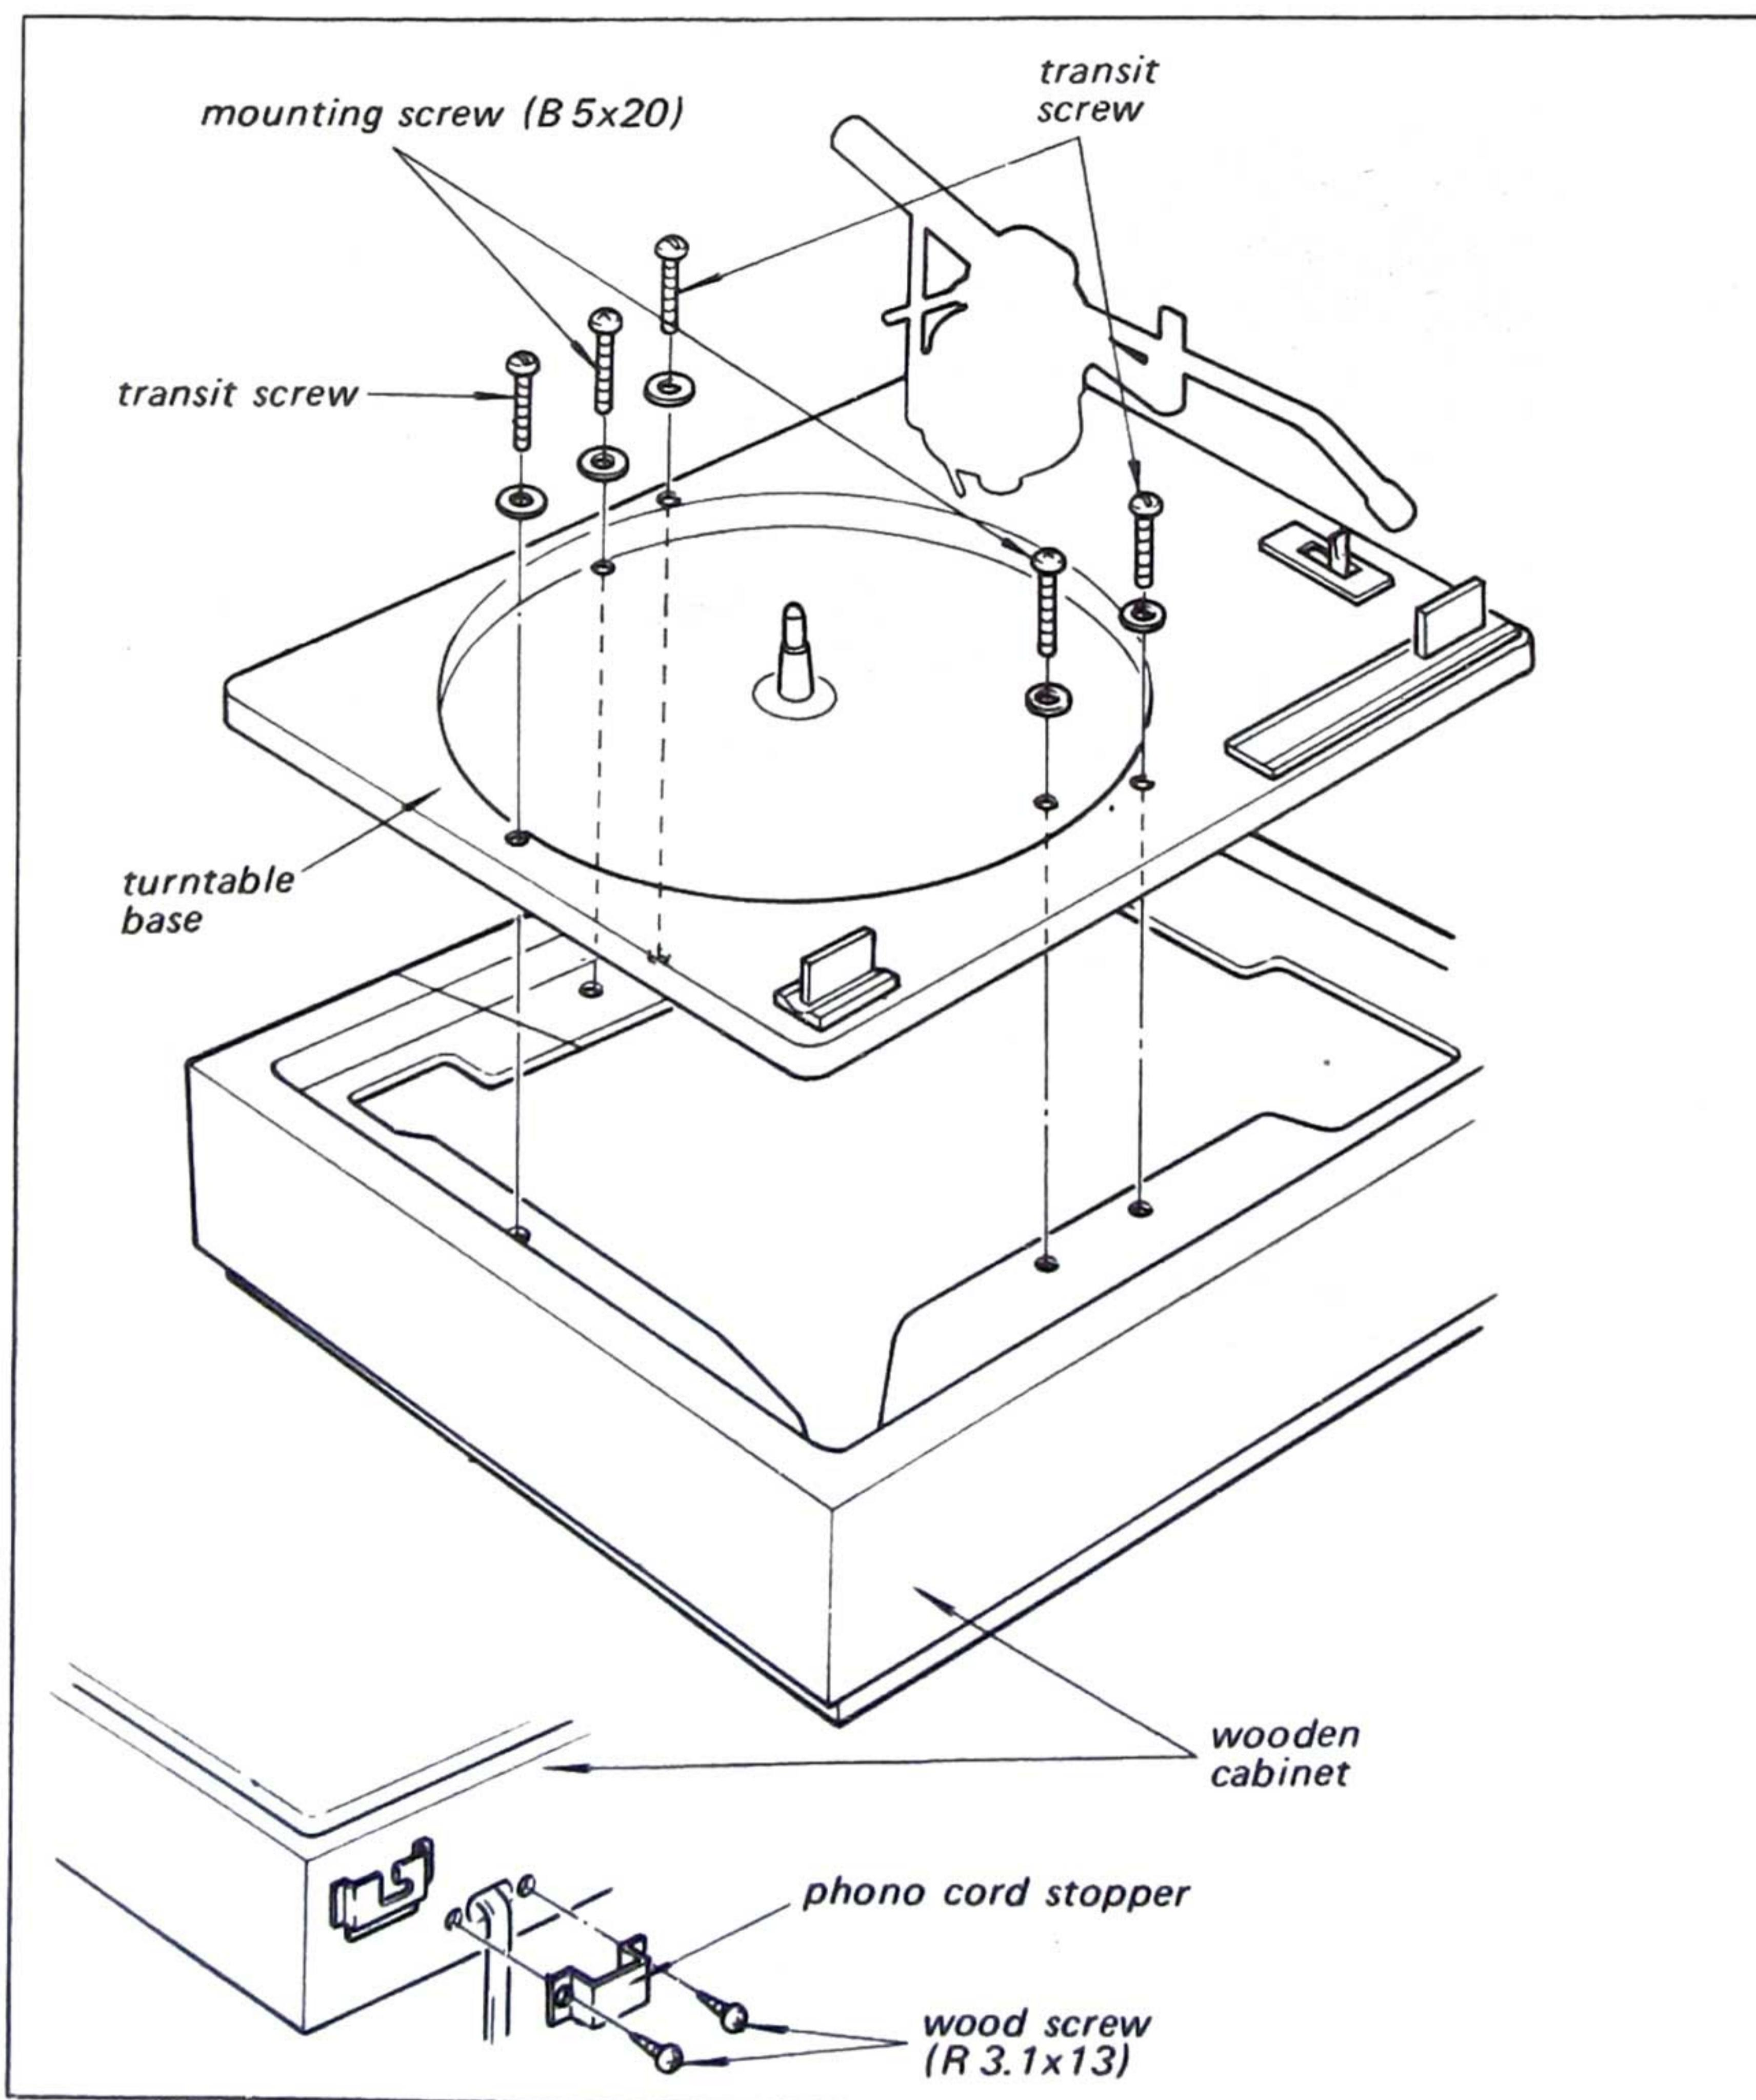

Fig. 2-3. Turntable base removal
- Remove the three transit screws and the two mounting screws shown in Fig. 2-3.
- Remove the phono cord stopper by removing the two wood screw as shown in Fig. 2-3. This frees the phono cord.